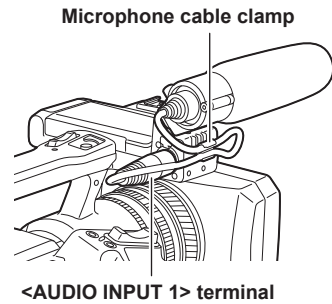

Fig. 3
- 3** Connect the microphone connecting cable to the <AUDIO INPUT 1> terminal on the camera. (Fig. 3)